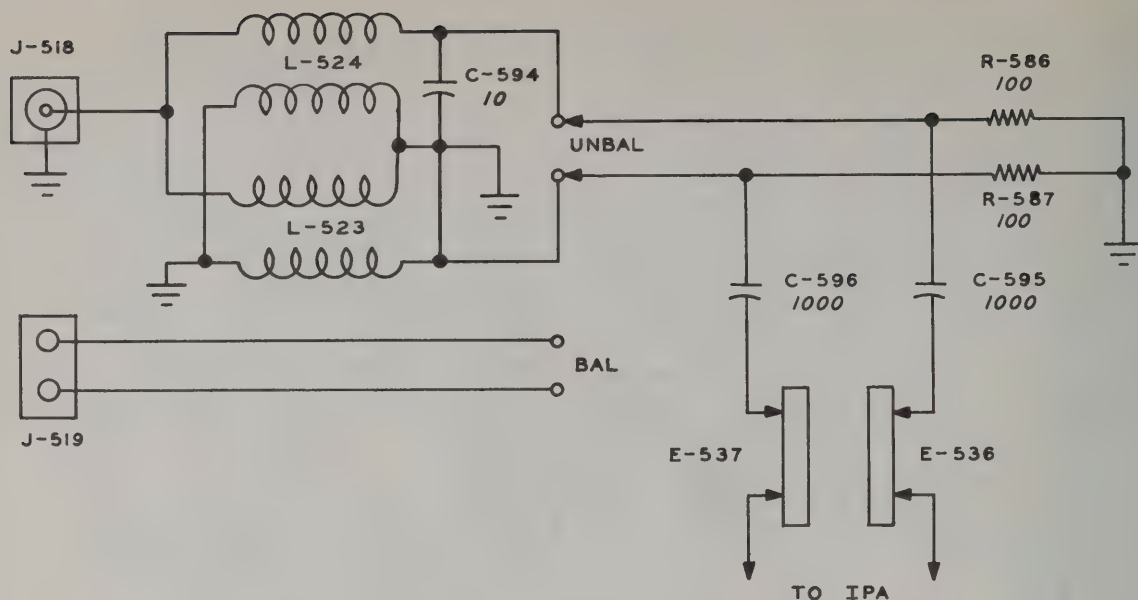

Figure 115. Radio Transmitter T-454/FRT-26, Single-Sideband Input Circuit, Schematic Diagram.
- (5) *IPA conversion for linear amplification.* The circuit that is normally employed at the grids of the intermediate power amplifier is designed to present a high-impedance load to the 4-400A driver tube and to deliver balanced push-pull voltage to the low-impedance grid circuit of the IPA. This is not a suitable circuit for accepting drive from an external single-sideband suppressed-carrier transmitter. Therefore, the intermediate power amplifier must be modified slightly for such operation. Fig. 115 is a simplified schematic of the intermediate power amplifier input circuit following conversion for linear amplifier operation.